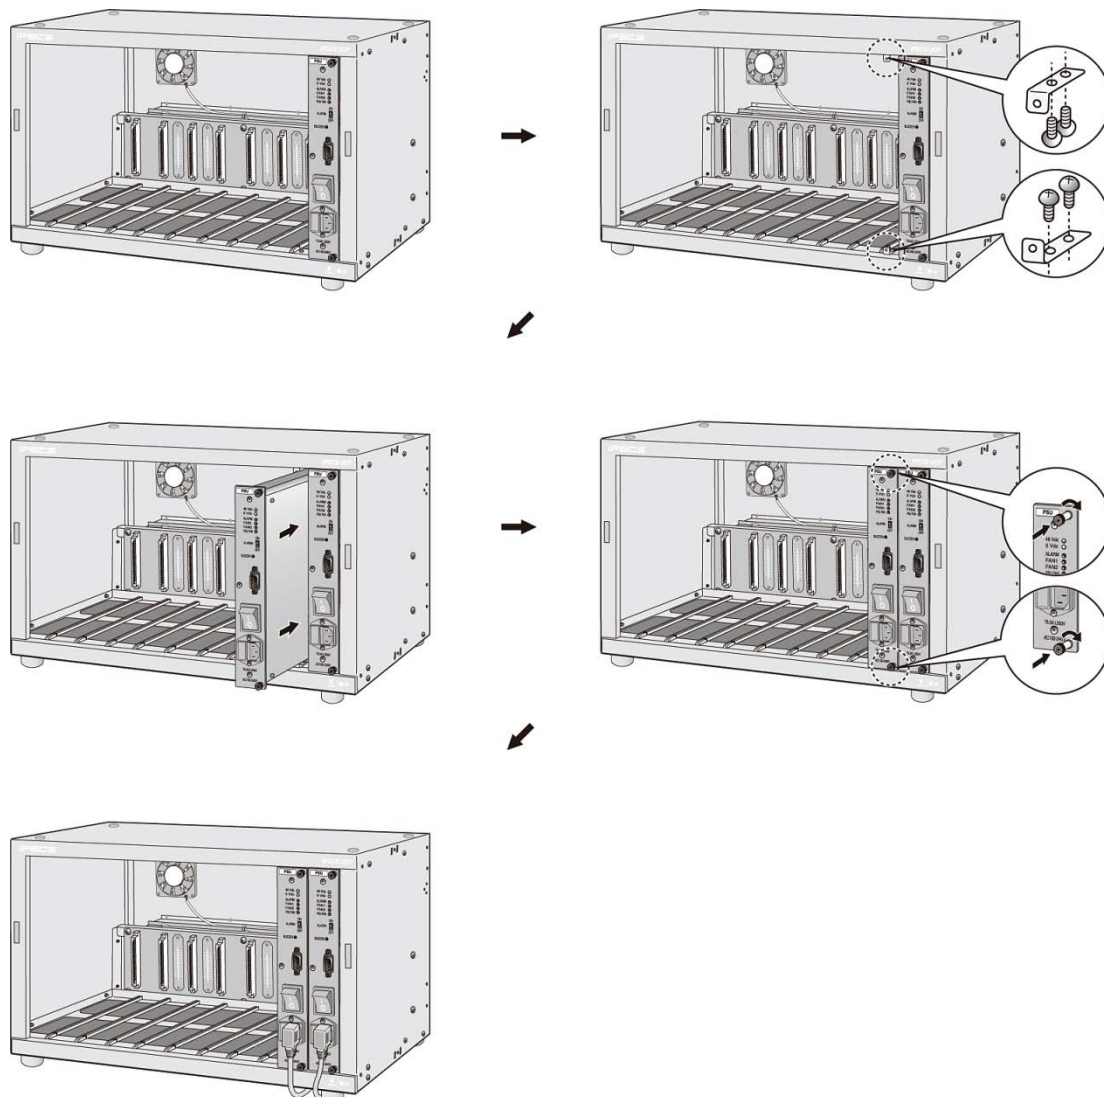

Figure 5.3-2 Back-up PSUs Installation
The back-up PSU for power redundancy is installed as described below and shown in Figure 5.3-2.
2. Using the screws provided, install the upper and lower PSU thumbscrew brackets to the right of the slot 9 slides as shown in Figure 5.3-2.